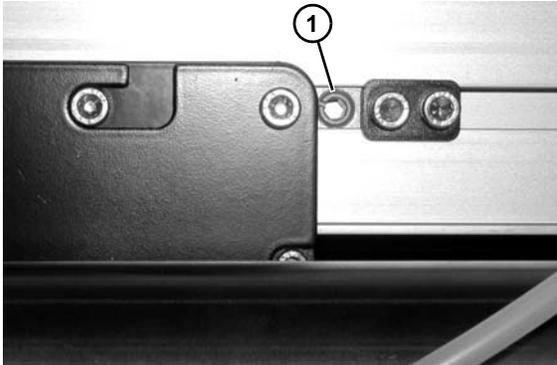

Figure 72
3. Rotate the tracking cam (Figure 72, item 1) in small increments, each time inspecting the belt as it exits the center drive. Continue to rotate the tracking cam until conveyor belt is tracking normally.